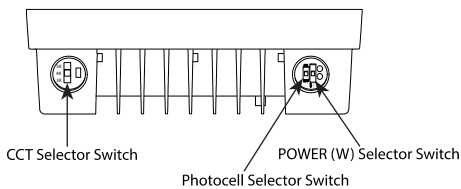

Fig: 6
2. Locate the **Selector Switches** on the fixture (Fig. 6).
3. Select **Power (W)** and **Color Temperature (CCT)** by sliding the respective switch to the desired value.